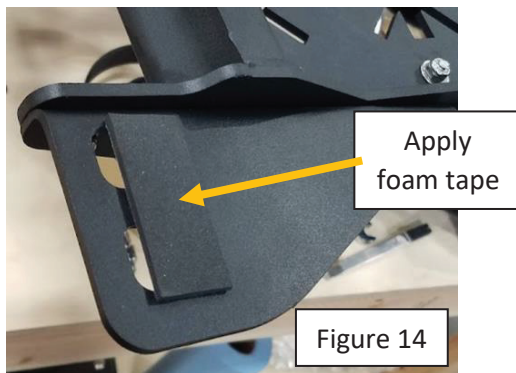

Figure 14
- h. Cut approx. 2" of 1" foam tape and install to the back side of the lower hinge mount bracket as shown in figure 14